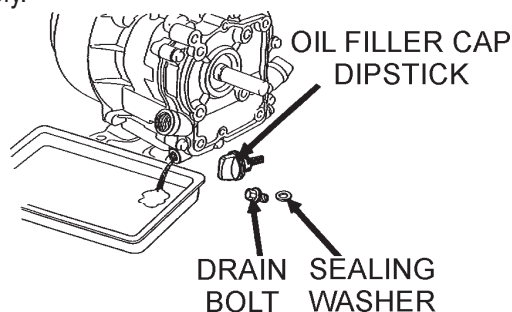

Figure 39. Engine Oil (Draining)
- Drain the engine oil when the oil is **warm** as shown in Figure 39.